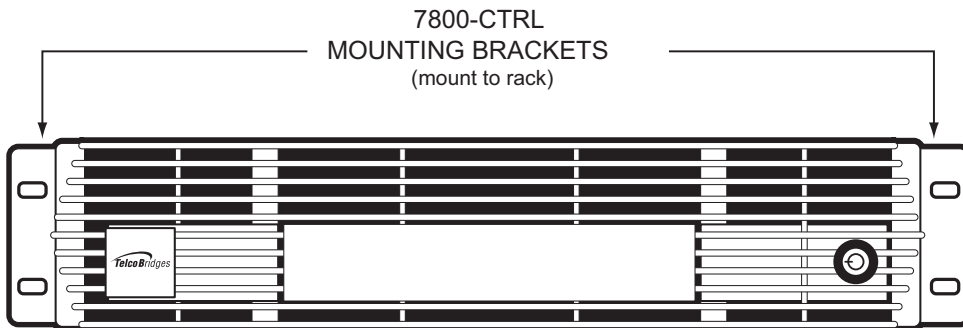
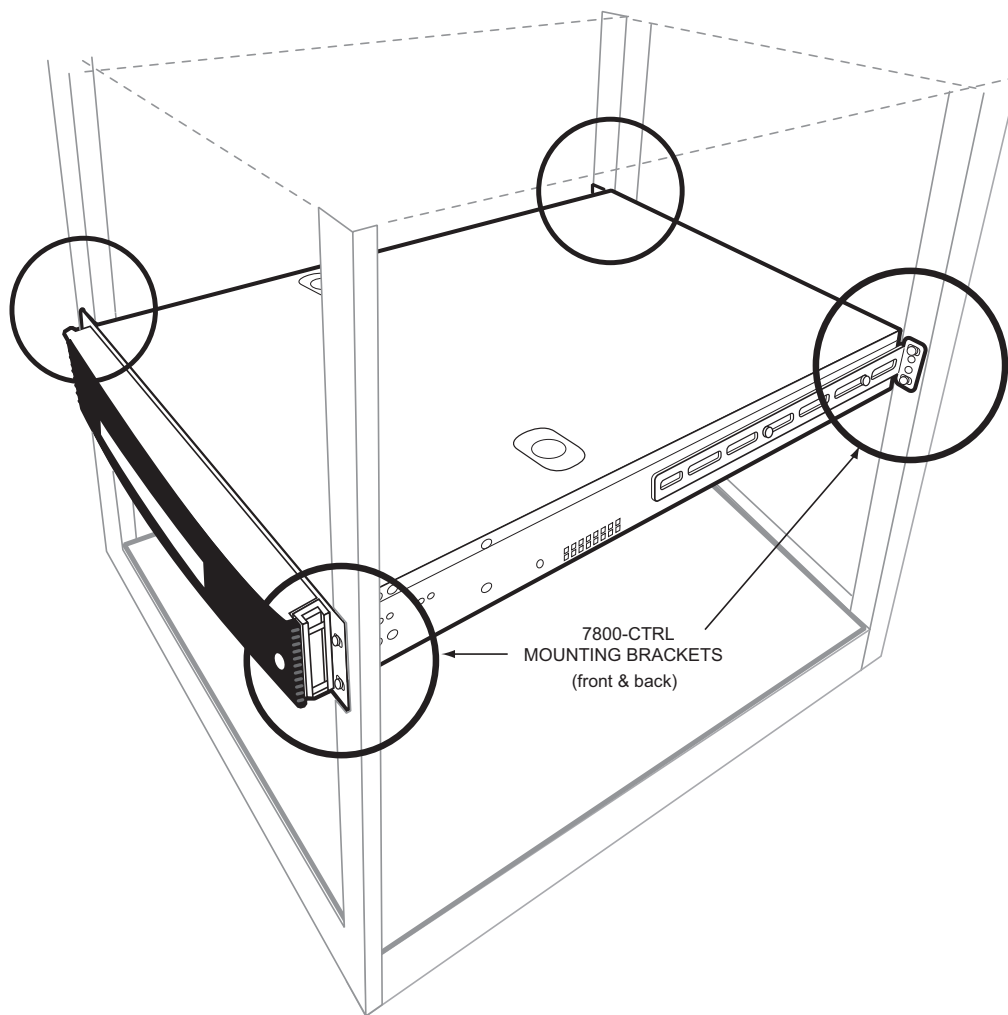

Figure 2.8 Front View of 7800-CTRL with Front Mounting Brackets
Figure 2.9 7800-CTRL Installed in the Equipment Rack
3. Secure it in place using the screws provided with the bracket. See figure 2.8 on page 16 and figure 2.9 on page 17.